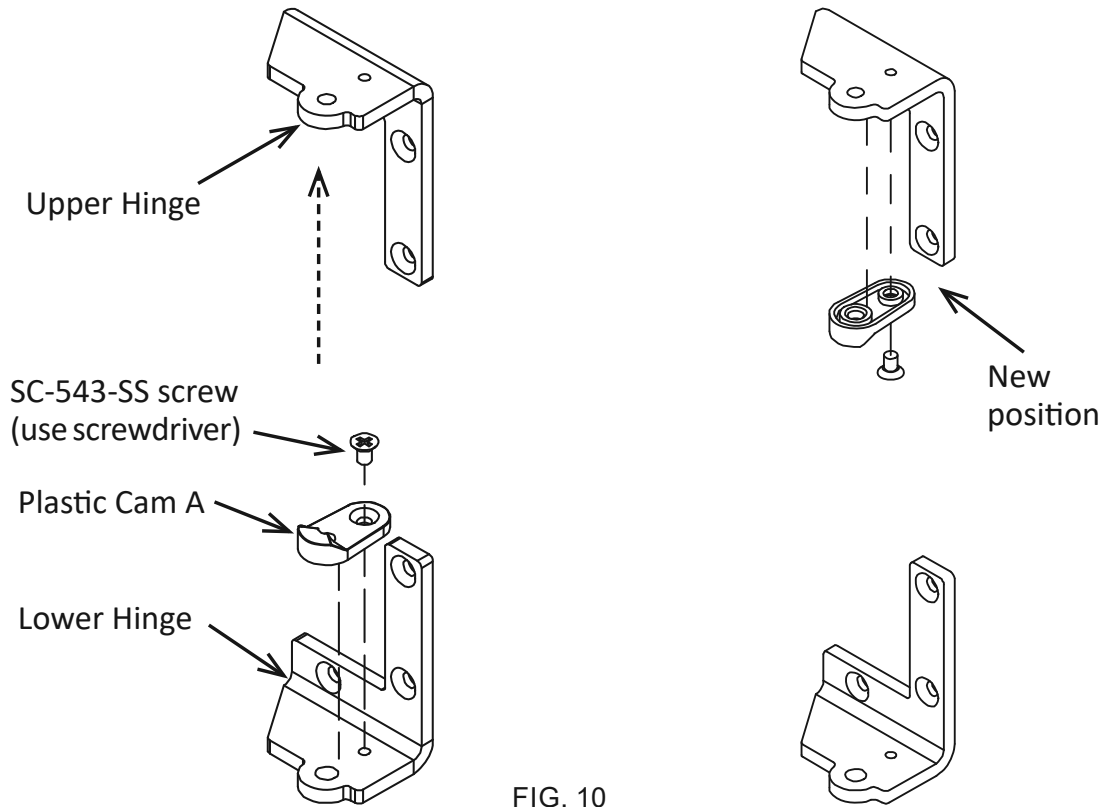

FIG. 10
Step 8. Remove the SC-543-SS screw and the Plastic Cam A from the Lower Hinge. Then place them on the Upper Hinge. See figure 10.